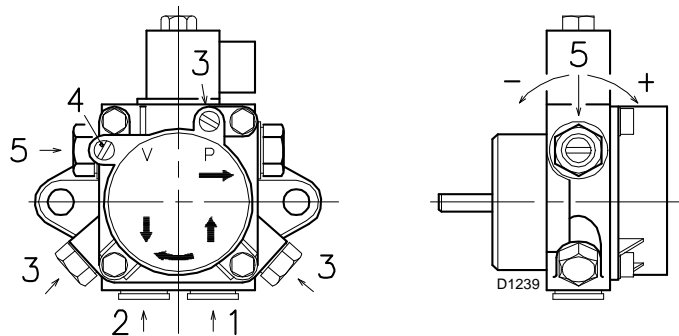
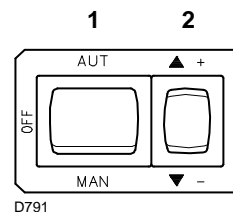

Fig. 16
Fig. 17
For the priming pump loosen the screw 3)(Fig. 16) in order to bleed off the air contained in the suction line and wait until the fuel flows out.
The pumps are equipped with a by-pass that connects return line with suction line. The pumps are installed on the burner with the by-pass closed by screw 6)(Fig. 16).
- For self-priming to take place, one of the screws 3)(Fig. 16) of the pump, must be loosened in order to bleed off the air contained in the suction line.
- Start the burner by closing the control devices with switch 1)(Fig. 17) in the "MAN" position. As soon as the burner starts, check the direction of rotation of the fan blade, by looking through the flame inspection window 19)(Fig. 4 at page 12).
- The pump can be considered primed when the light oil starts coming out of the screw 3)(Fig. 16). Stop the burner: switch 1)(Fig. 17) set to "OFF" and tighten the screw 3).